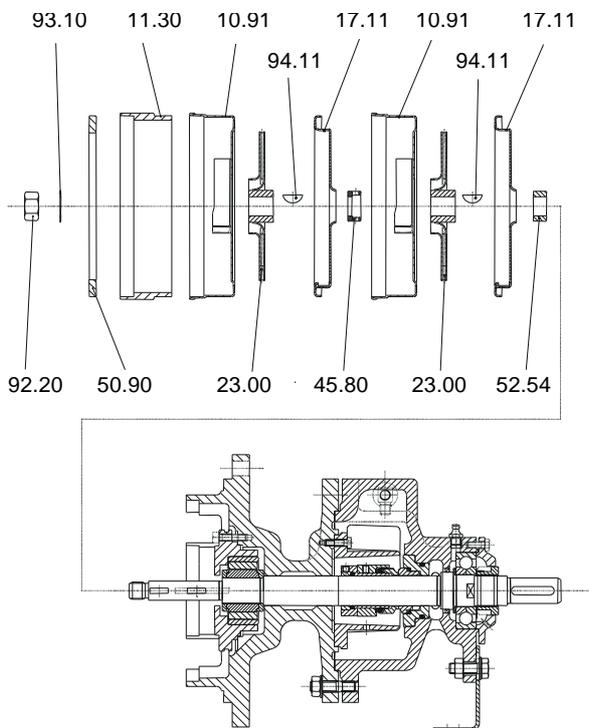

Fig. 2
4. Dismantle intermediate ring 50.90, blind stages 11.30 and intermediate piece 10.91. If restricted, these parts can remain in the housing (fig. 2).
5. Bend up tab washer 93.10 and unscrew impeller nut 92.20 (fig. 2).
6. Remove lock washer 93.10, impeller 23.00, spring washer 94.11, intermediates pieces 17.11 and 10.91 in sequence (if restricted, remove intermediates complete) (fig. 2).
94.11, second intermediate piece 17.11 and distance piece 52.54 (fig. 2).